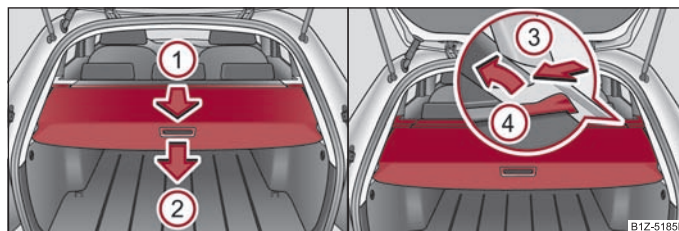

Fig. 61 Luggage compartment: Foldable luggage compartment cover/removing the foldable luggage compartment cover
- Pull the foldable luggage compartment cover in direction of arrow ① as far as the stop into the secured position ⇒ fig. 61.
If you wish to use the entire luggage compartment, you can remove the luggage compartment cover ⇒ fig. 61.